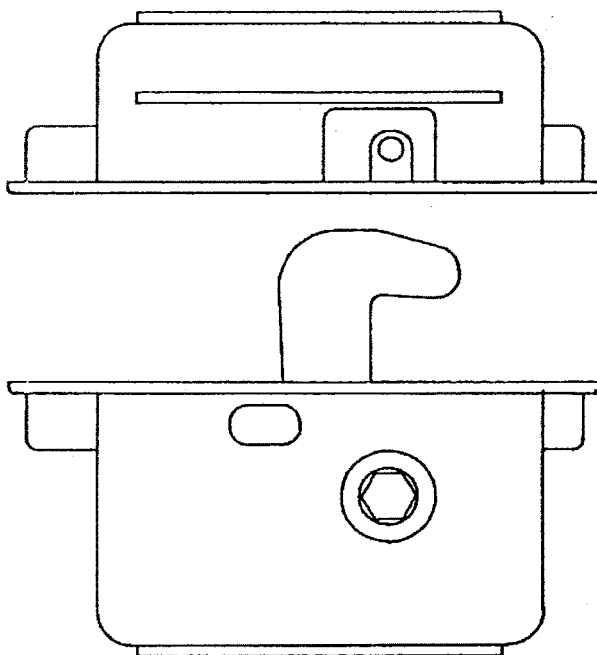

FIGURE 2\*—CAM LOCK
- **Joinery:** The Murus Panel has a tongue-and-groove edge. The connection between the panels is made with a cam lock system, which consists of two parts, as shown in Figure 2 of this report. The cam lock is located along the vertical edge of the Murus Panel at 2-foot intervals, beginning 1 foot from the top or bottom of the panel. Two Murus panels are secured together by aligning two Murus Panels with cam locks next to each other, with spray foam applied to the tongue (or groove) of one panel, and rotating the cam turning gear in the cam lock with a hex head wrench. After the connection is completed, spray foam is applied in the exterior channel between the two panel skins. The excess foam is removed prior to the application of the exterior wall covering.